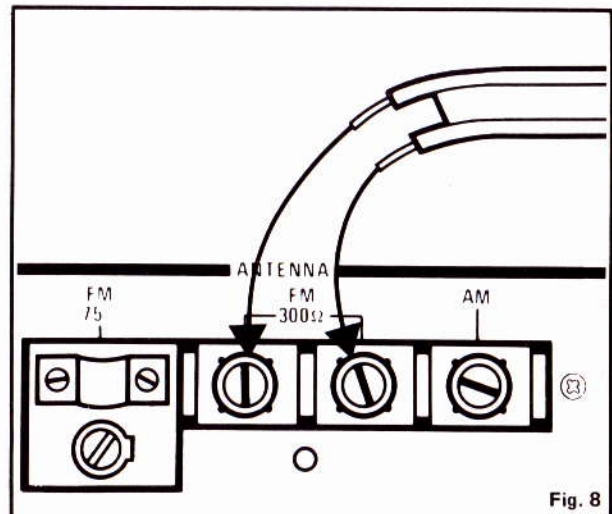

Fig. 8
- 300Ω flat feeder antenna with two leads (Fig. 8): Connect to the two 300Ω terminals.